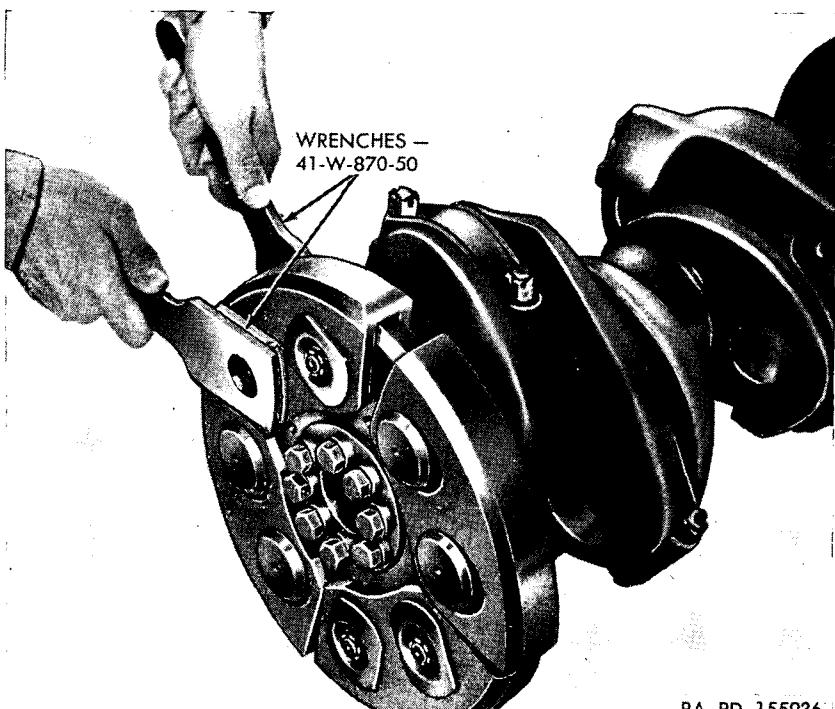

Figure 66. Removing vibration damper counterweight pins.
d. Remove the cotter pins from the four damper female counterweight pins (K, fig. 70) which hold the two remaining counterweights. Use wrenches 41-W-870-50 (fig. 66) to unscrew the four pins. Remove the four damper male counterweight pins (H, fig. 70), pin bushings (J, fig. 70), and the female pins. Remove the two counterweights.
*b.* Assemble two of the four counterweights to the crankshaft damper hub, using the damper male counterweight pins (H), pin bushings (J), and the damper female counterweight pins (K, fig. 70) in the positions shown in figure 66. Note that the coun-
terweights must be located between counterweights stop plate bolt holes in order to install the counterweight stop plate when the counterweights are in place. Tighten the pins, using wrench 41-W-870-50 (fig. 66). Line up the slots in the female pin nuts with cotter pin holes in male pin and install the cotter pins. Assemble the other two counterweights to the hub, using the damper counterweight pins (C, fig. 70). Assemble the counterweight stop plate (B, fig. 70) to the hub and secure with four bolts and safety wire (fig. 69).